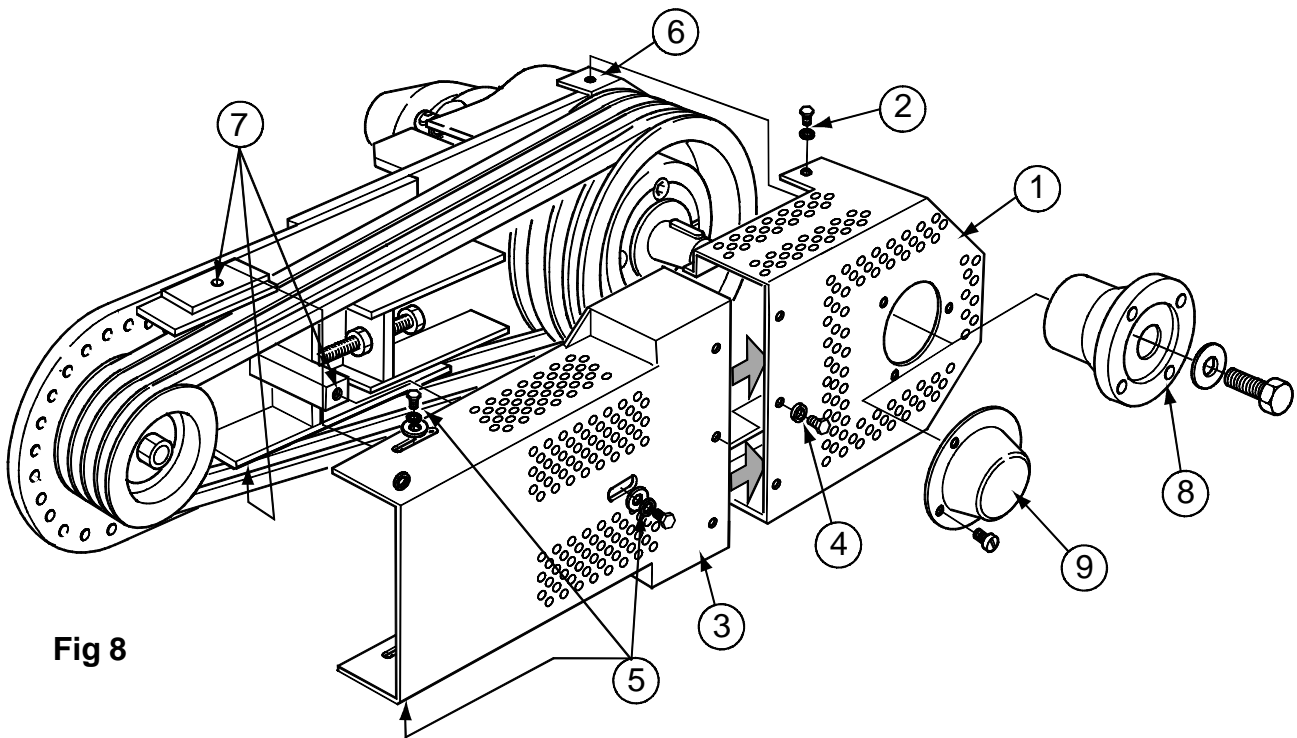

Fig 8
Fit Cover(6) to Belt arm assembly. (Refer Page 10 and Fig 8 for fitting instructions)